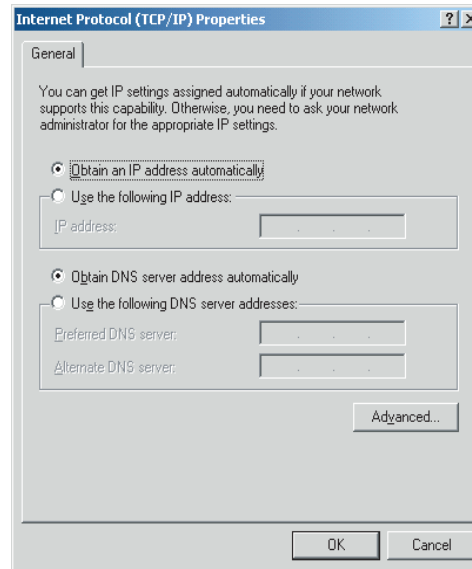

Figure 3.24: Windows 2000 Internet Protocol Settings
- 13 Select the *Networking* tab. Select the *Internet Protocol (TCP/IP)* and press the *Properties* button. Configure the settings as shown in Figure 3.24.